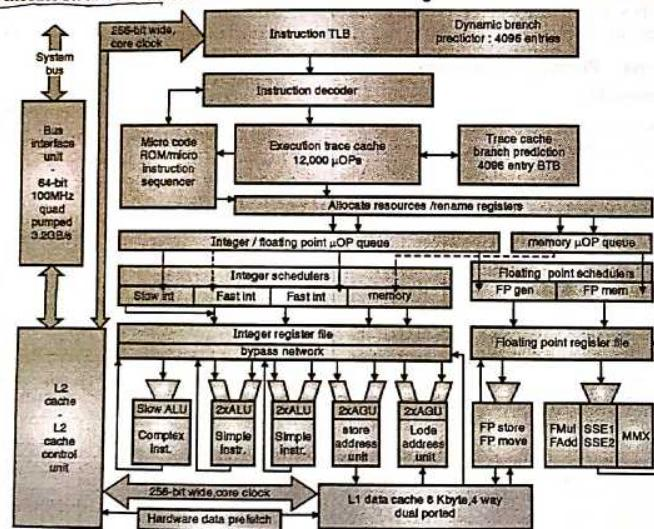

Fig. 14.6.2 : Detailed Block Diagram of Pentium 4
- There are integer execution units to execute integer instructions, floating point unit to floating point instructions and MMX unit to execute SIMD vector instructions. The detailed block diagram of Pentium 4 is shown in Fig. 14.6.2.